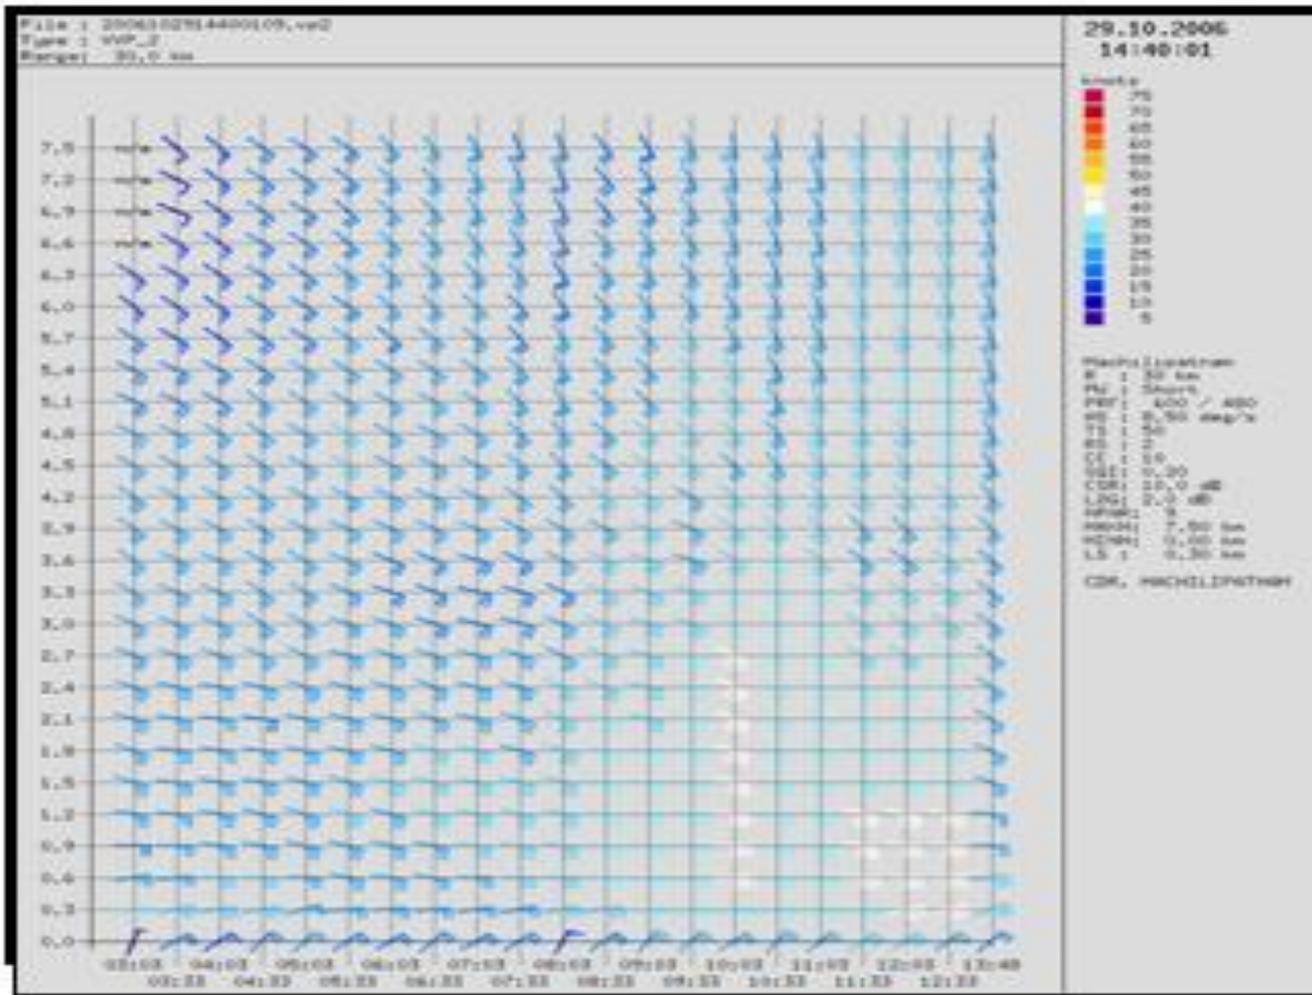

Fig. 7.11: VVP2 product. It provides vertical wind profile over DWR station
This version displays speed and direction in a height over time diagram. Wind barbs are used to indicate wind speed and wind direction. A column of wind barbs shows velocity and direction for a time step, subsequent columns show the wind profile for subsequent VVP (2) product generations. VVP_2 product generated by DWR Machilipatnam is shown in Fig.7.11.